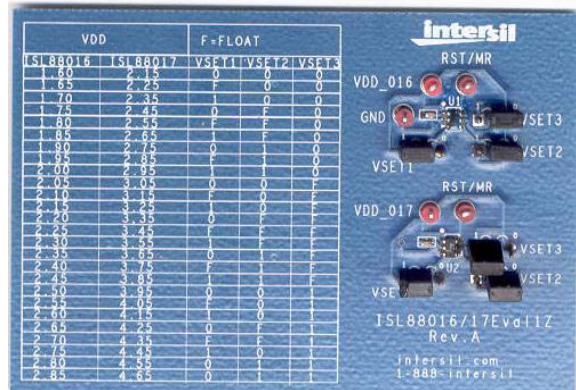

FIGURE 5. ISL88016/17EVAL1Z PHOTOGRAPH
The ISL88016/17EVAL1Z platform is provided with both an ISL88016 in the top and an ISL88017 in the bottom positions. Each IC is default programmed to VSET1, VSET2 and VSET3 = FLOAT but provided with jumpers to change the V_{th} level by individually connecting the three VSET pins to either V_{DD} (1) or GND (0). To the left of the circuits is a VSET programming table for easy reference. Provide adequate bias to V_{DD} to deassert $\overline{\text{RESET}}$ signal. See Figure 4 for the ISL88016/17EVAL1Z schematic and Figure 5 for its photograph.